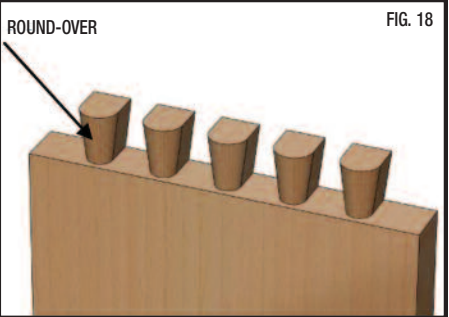

FIG. 19
2. Insert the first board into the "TAILS" section of the Dovetail Jig along with a thin piece of scrap to offset the first board and the jig. (FIG. 19)